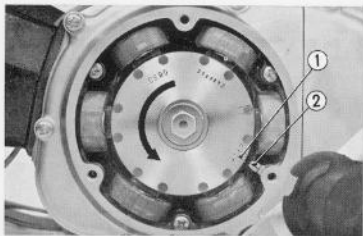

Fig. 5.2 Aligning to the "T" timing mark
- a. Remove the left crankcase cover and align the timing mark "T" ① on the flywheel with the alignment mark ② on the stator. (Fig. 5.2)